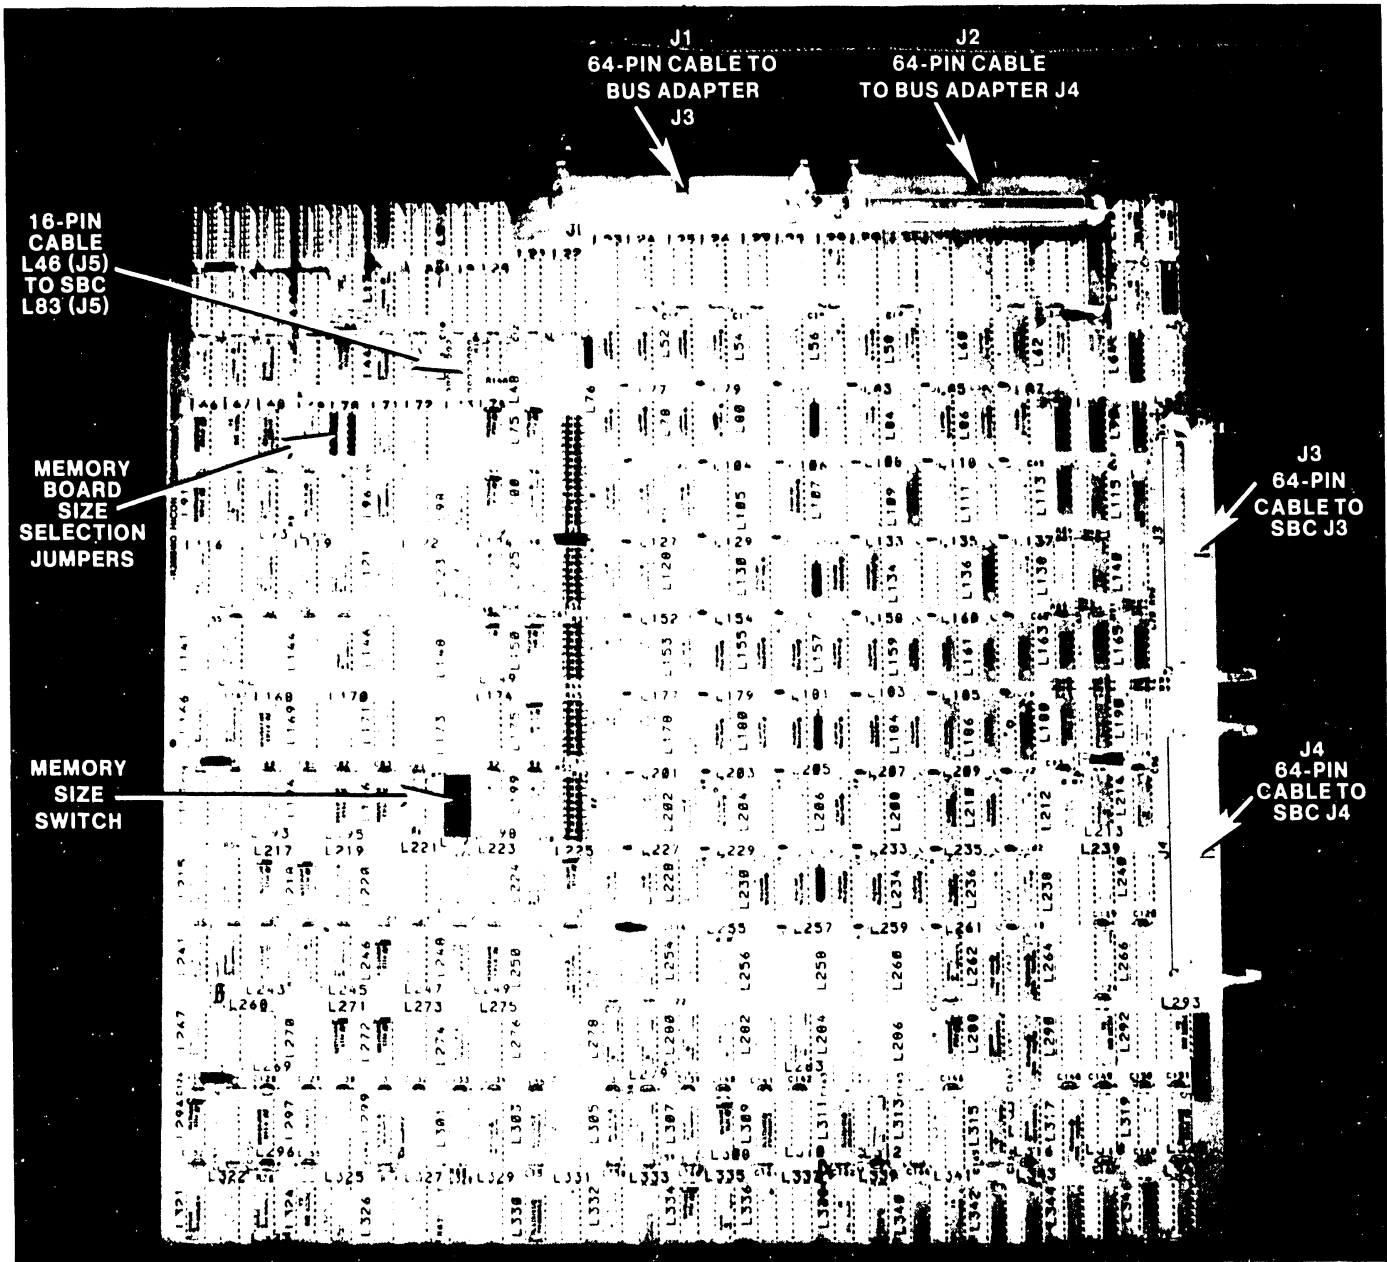

Figure 5-11A. 210-8804 VS-85 Cache Memory Board
1. If the system has a Cache Memory board (figures 5-11A and 5-11B) in Motherboard slot #4, disconnect the 64-pin connectors from J1 and J2 on the top of the board, and from J3 and J4 on the front of the board.